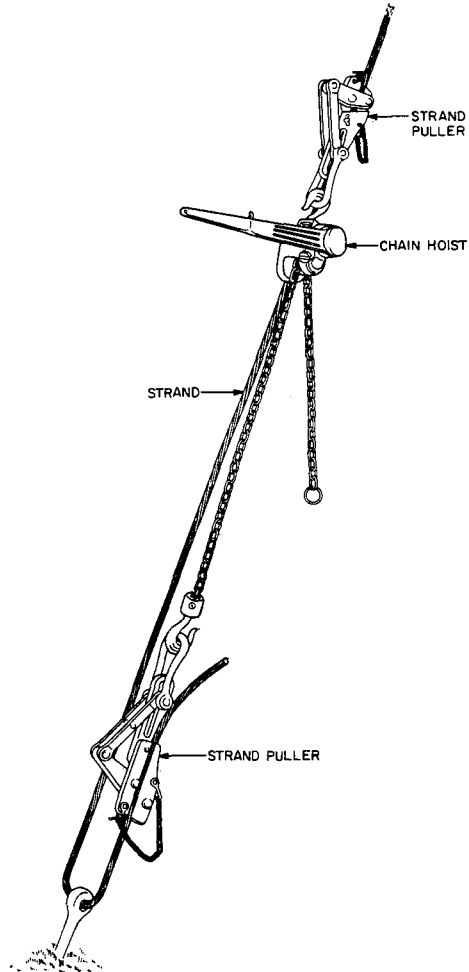

Fig. 31—Tensioning Guy
- (b) Apply a strand puller to the guy a short distance above where the guy tail will terminate and also to the tail of the guy. (See Fig. 31.)